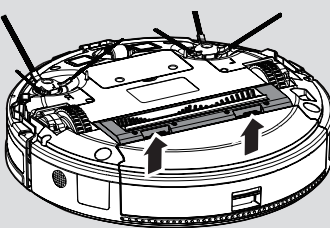

Fig. 18
2. Turn the Robot over. [Fig. 18]